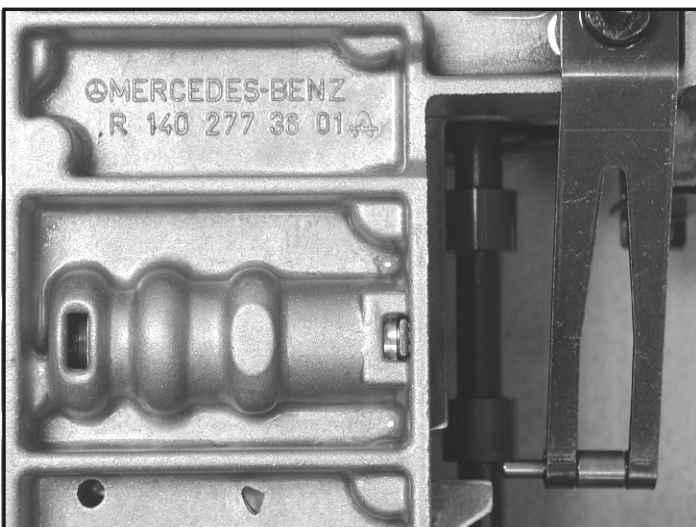
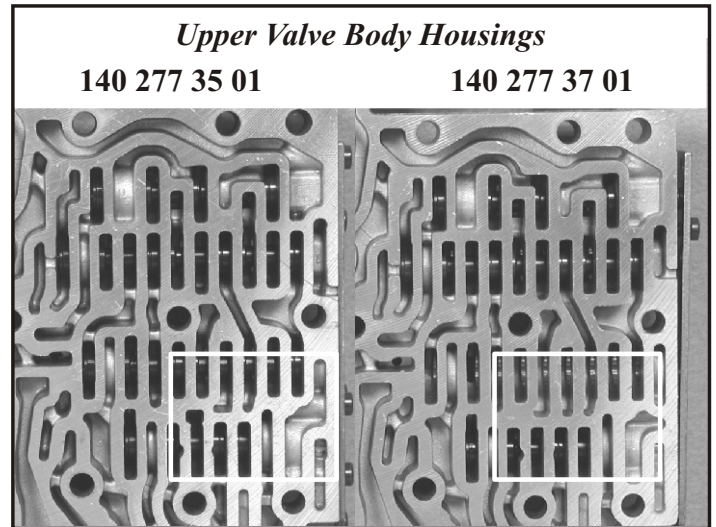

Figure 23
Figure 24
**140 277 36 01** = In July of 1996, this re-designed valve body (Figure 23) was released for improved garage shifts (initial engagements). Both the upper and lower valve body housings have been modified as well as the transmission control module to accomplish this improvement (See Figures 24 and 25). If this design valve body is used in an earlier vehicle without updating the control module, excessively delayed engagements will be experienced.